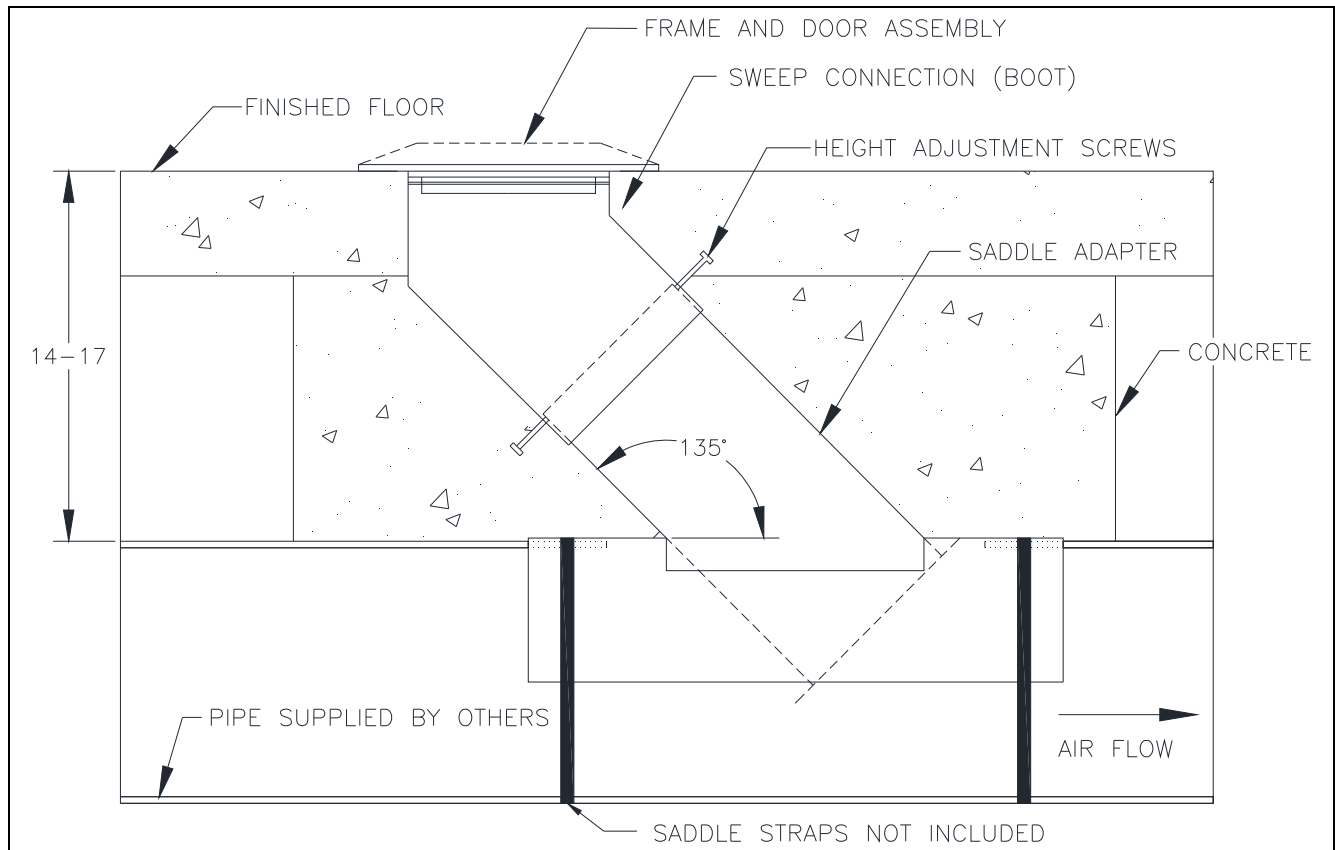

FIG 2
1. Dig the trench depth between a minimum depth of 14-17" (See FIG 2).